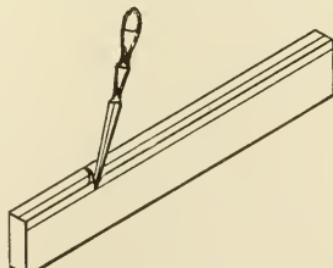

FIG. 126.—CUTTING RABBET WITH A CHISEL.
7. Grooving the top. — In cutting the groove or rabbet, workmen usually use a special form of plane called by various names according to the use it is intended for. But it is possible to cut the rabbet with nothing but the chisel and mallet. Chisel down nearly to the line, as shown in Fig. 126, and trim with a broad chisel down to the lines from both the edge and the surface. The groove extends $\frac{1}{2}$ " past the shoulder at each end. Glue the corner made by one side and one end, and fasten with $\frac{3}{4}$ " screws from the under side. Then glue the corner made by the other side and end, and fasten in the